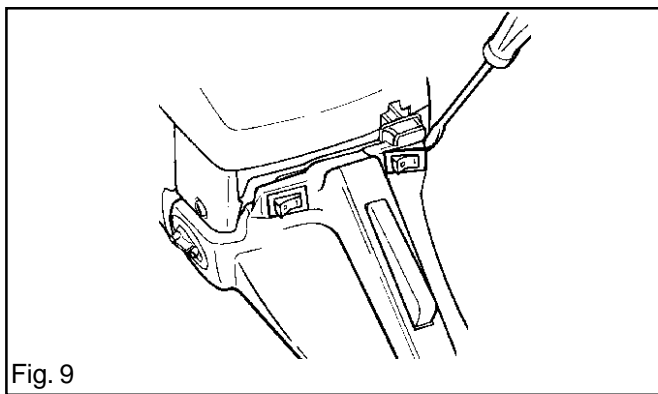

Fig. 9
Remove the switch with a screwdriver. See fig. 9.
1. Remove the switch and disconnect the cables. See fig. 9.